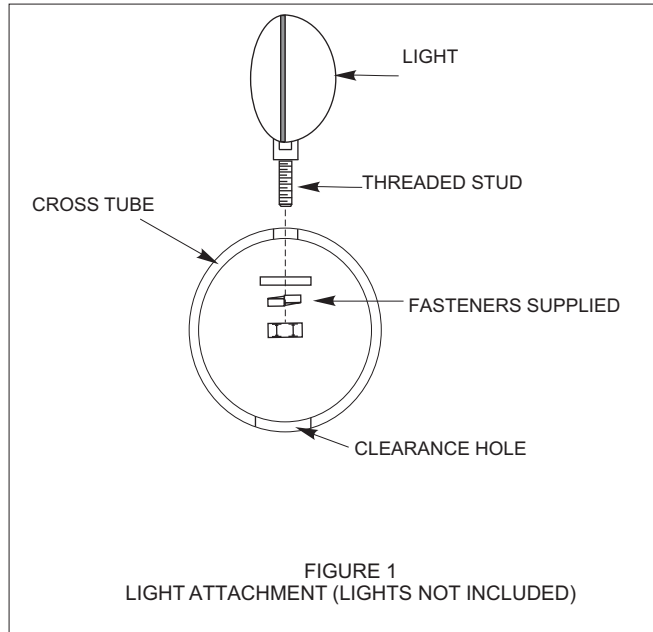

FIGURE 2 DRIVER SIDE SHOWN, PASSENGER SIDE OPPOSITE
- STEP 3.** Position brackets onto bottom surface of frame using 3/8" yellow zinc fasteners. Leave loose. SEE FIGURES 2 AND 3.